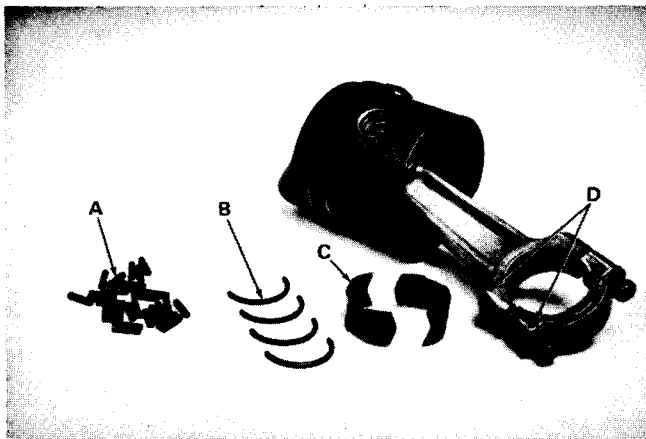

Figure 70. Needle Bearings Removed.
- d. In Figure 70, locate the 28 needle bearings (A). Always double check to be certain all 28 needle bearings have been removed.
- f. The rod and rod cap must be mated on reinstallation. (See Figure 70.) Reference marks (D), on the rod and rod cap should be noted. Mismatching and tightening down of the rod cap can cause serious damage to the engine. If this should occur even once, the rod must be scrapped.
- f. Next, install the liners in the connecting rod and cap. Note the 2 reference marks, 1 dot on the rod and 1 dot on the rod cap. They must be mated when reinstalling them. (See Figure 70.)